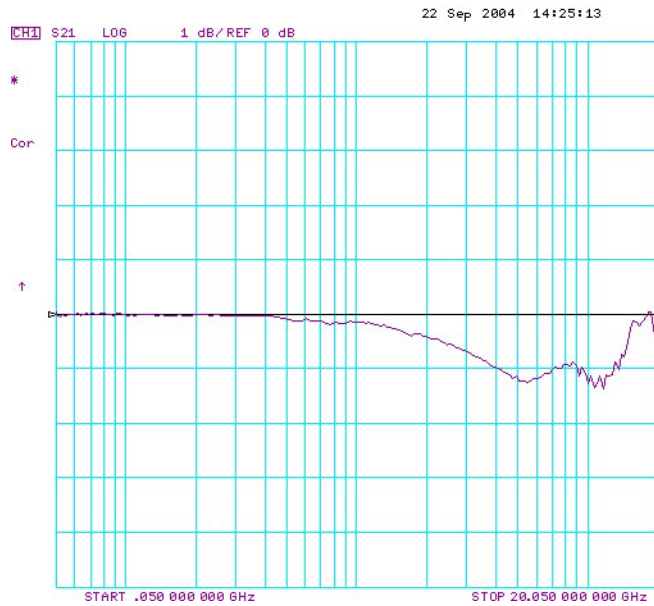

Figure 210 Typical V_{in} Waveform
- 35** The V_{in} waveform shown on screen should be similar to that shown in **Figure 210**.